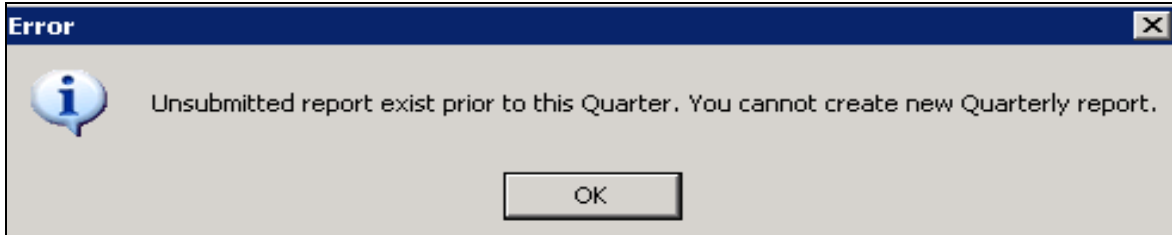

Figure 11-34: Validation error message
8. Except when importing several Quarterly Reports for a single project, a second report for a project cannot be newly created manually unless the previous report has been submitted. Attempting to do so will generate an error message (Figure 11-34).